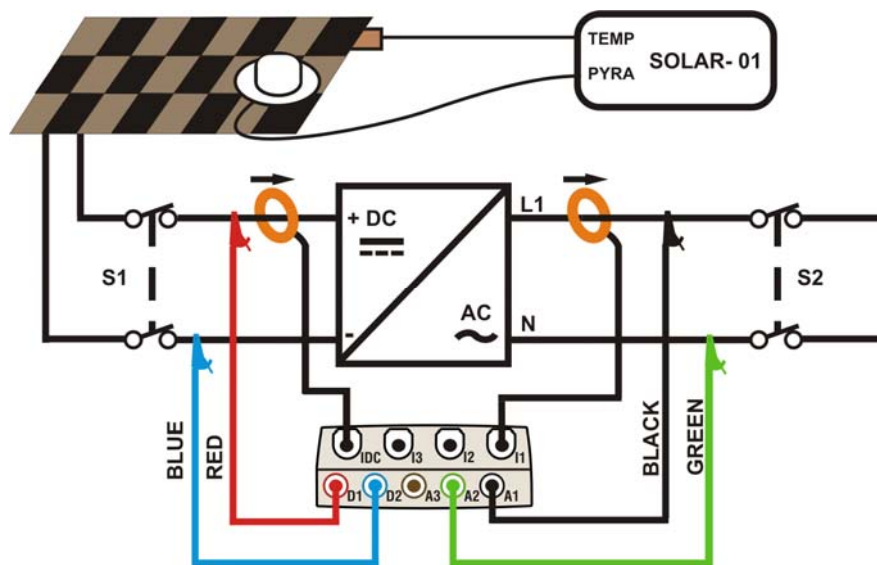

Fig. 159: Connecting the instrument in a PV-1 system with SOLAR-01
2. Connect inputs **D1** and **D2** to the positive and negative string output pole respectively. Connect inputs **A1** and **A2** to the phase and neutral conductors, respecting the colors as shown in Fig. 159
3. Connect the DC current clamp to the positive string output conductor **by respecting the direction of the arrow** on the clamp itself as indicated in Fig. 159. **Check the status of internal batteries of the DC clamp after the connection to the installation**
4. Connect the AC current clamp to the Phase L1 conductor **by respecting the direction of the arrow** on the clamp itself as indicated in Fig. 159. Connect the output of the clamp to the **I1** input of the instrument.